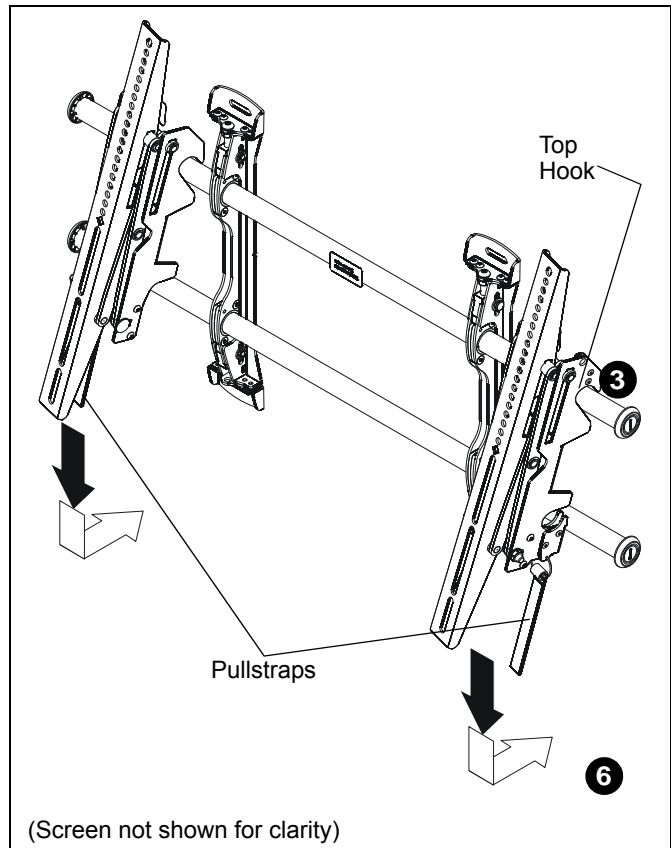

Figure 12
3. Hang top hook of interface brackets (U and V) onto the top bar of the mount (R). (See Figure 12)
6. Pull downward on the pullstraps and swing inward toward wall, latching interface brackets to lower bar and locking bottom of screen to the mount. (See Figure 12)